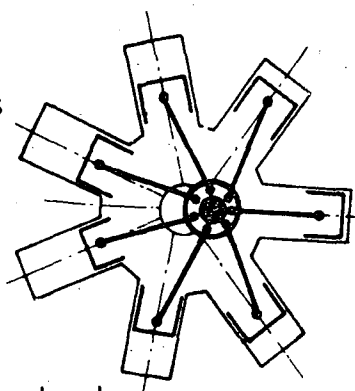

Fig. 9
- *Radial Cylinder Engines.* These are engines in which their cylinders are arranged in a star design. (fig. 9).